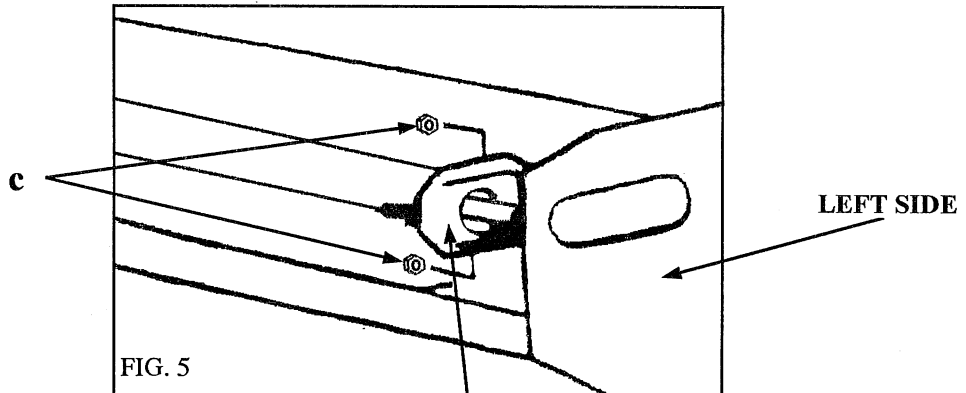

FIG. 5
- Loosen the two nuts "c" on the tensioning plate to the left side of machine (fig. 5);